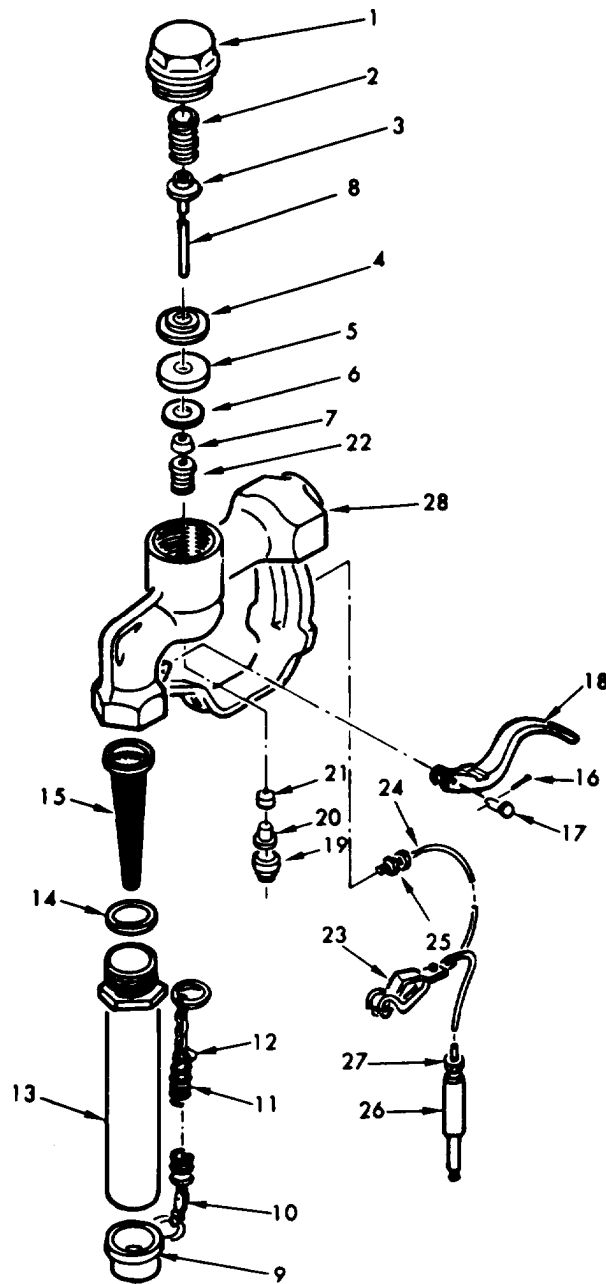

Figure 5-7. Nozzle, Disassembly and Reassembly.
a. Removal. (Figure 5-7)
- (1) Open nozzles and drain fuel into suitable container.
- (2) Remove nozzles by pulling out on cam arms and disconnecting coupling.
- (3) Remove nozzle bonding wires.
b. Disassembly. (Figure 5-7)
(1) Remove cap (1), spring (2) upper poppet (3), disk holder (4), disk (5), washer disk (6), nut (7), and stem (8).
- (2) Remove dust cap (9), chain (10), spring (11), and hook (12).
- (3) Remove spout (13), gasket (14), and strainer (15).
- (4) Remove cotter pin (16), pin (17), and lever (18).
- (5) Remove packing nut (19), nut (20), packing (21), and guide (22).
- (6) Remove clip (23), wire (24), nut (25), plug (26), and nut (27) from body (28).
- (1) Clean parts in drycleaning solvent (Item 1, App. E)
- (2) Dry all parts thoroughly.
- (3) Inspect the spring for cracks and rust.
- (4) Inspect the upper poppet for damage.
- (5) Inspect the disk and washer disk for distortion.
- (6) Inspect the washer disk for excessive groove caused by wear and for splits or tears.
- (7) Inspect the body for cracks, breaks, dents, distortion, and damaged threads.
- (8) Inspect other parts for damage.
- (9) Replace all defective parts.
d. Reassembly. (Figure 5-7)
- (1) Assemble clip (23), wire (24), nut (25), plug (26), and nut (27), and attach to body (28).
- (2) Install guide (22), packing (21), nut (20), and packing nut (19).
- (3) Install lever (18), pin (17), and cotter pin (16).
- (4) Install strainer (15), gasket (14), and spout (13).
- (5) Install hook (12), spring (11), chain (10), and dust cap (9).
- (6) Assemble and install stem (8), nut (7), washer disk (6), disk (5), disk holder (4), upper poppet (3), spring (2), and cap (1).
- (1) Install nozzle bonding wires (figure 5-7).
- (2) Install nozzles by connecting couplings and closing cam arms.